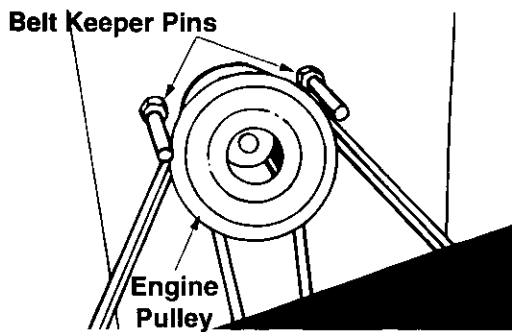
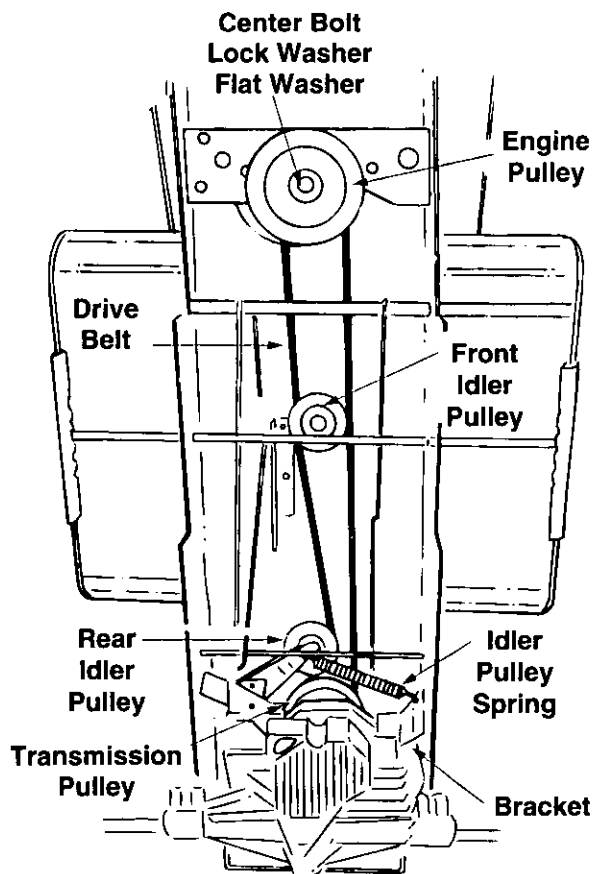

Figure 23
Figure 24
NOTE: Figure 23 and Figure 24 are shown with the unit tipped up for clarity. It is not necessary to tip the unit to remove the belts.
3. Remove the belt keeper pins from the lower frame. See Figure 23.
Note: When reassembling, make certain belt keeper pins are assembled in same locations from which they were removed. See Figure 23.
DRIVE BELT (See Figure 24)